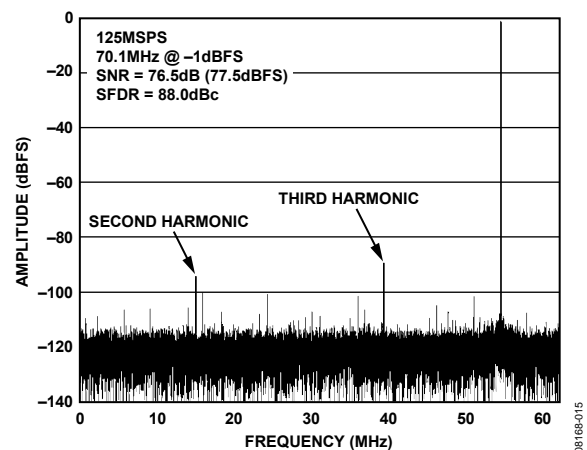

Figure 16. Typical FFT, AD9268/AD9258
3. Click the disk icon within the **Graph** window to save the performance plot data as a .csv formatted file. See Figure 16 for an example.